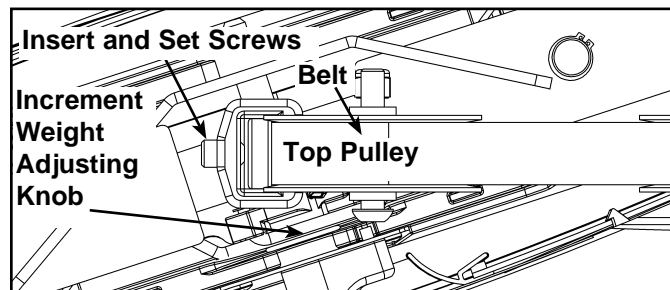

Figure 7 (top view from pulley down to belt clamp)
- B. Carefully lift top weight and verify that the position of the belt clamp (on the top weight) is aligned properly with the top pulley bracket (on the machine). See Figure 7.